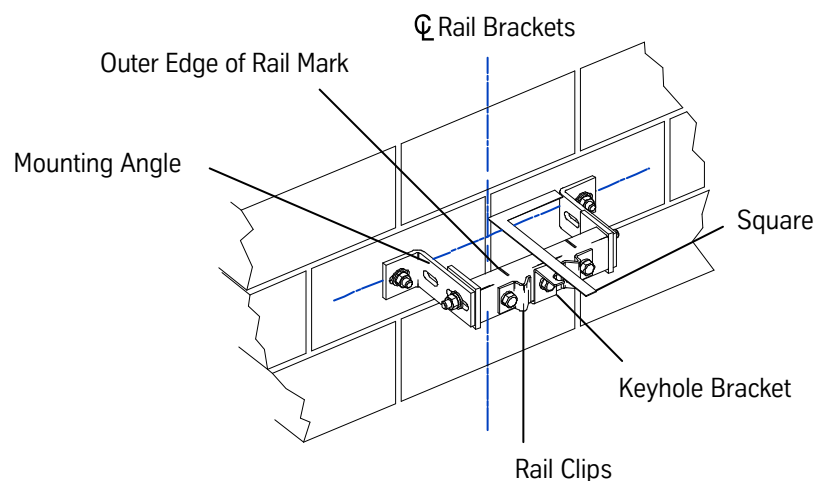

Figure 4 - Rail Bracket Location
- c. Drill the holes for the anchor bolts, or weld the bracket to the beam. See Figure 4.
- f. Align and plumb the bracket to the mounting angles (per alignment marks), and lock the bracket to the mounting angles. See Figure 4.